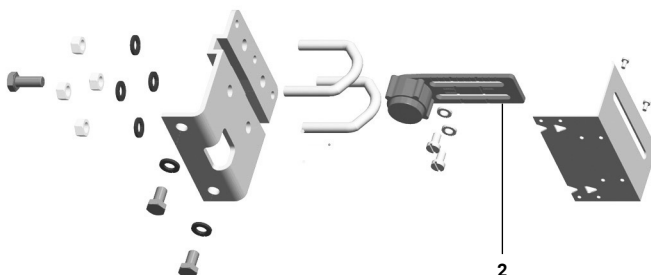
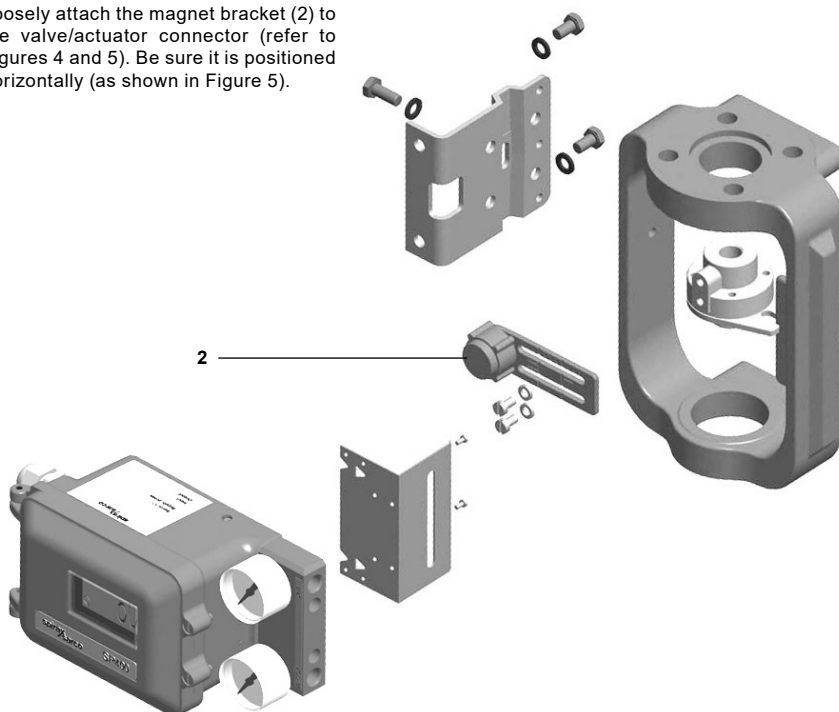

Fig.4 Pillar mounting kit for a linear actuator
Fig. 5 Yoke mounting assembly for a linear actuator
- 5.2.1** Loosely attach the magnet bracket (2) to the valve/actuator connector (refer to Figures 4 and 5). Be sure it is positioned horizontally (as shown in Figure 5).